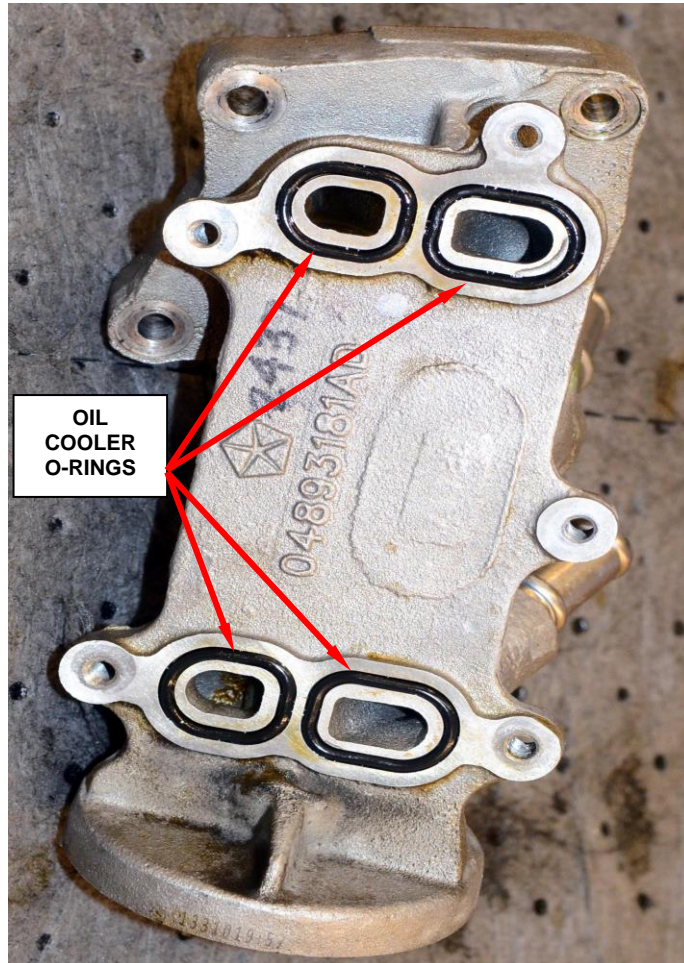

Figure 6 – Oil Cooler O-rings
13. Lubricate the four new oil cooler O-rings with motor oil and position to the oil filter adapter (Figure 6).